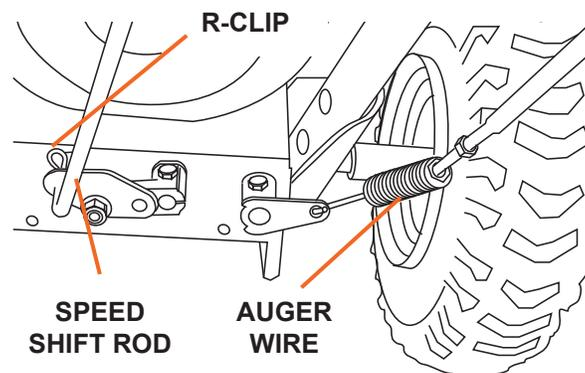

Figure 3
3. Attach the auger wire on the right side of the snow blower (see Figure 3). Remove the R-clip that connects the auger wire to the control lever on the handlebars, then slip the wire off. Attach the other end of the auger wire with the spring mechanism to the connection and reattach the auger wire to the control lever reinserting the R-clip. After connecting the wire adjust the tension. The wire should be taught when connected. (See Control Wire Adjustment, page 23 in the Operation Manual).
4. Attach the speed shift rod and secure with a R-clip that has been included in the hardware package (see Figure 3).